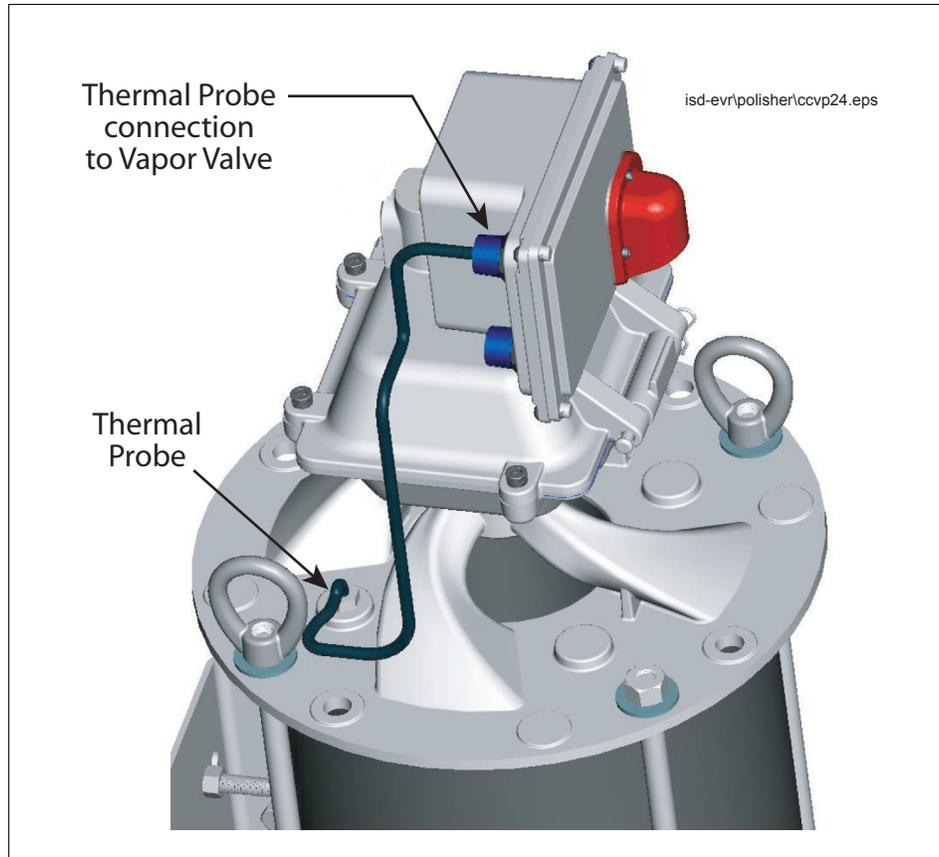

Figure 15. CCVP Thermal Probe
1. Remove the thermal probe cable connector from the back of the Vapor Valve assembly (see Figure 15).